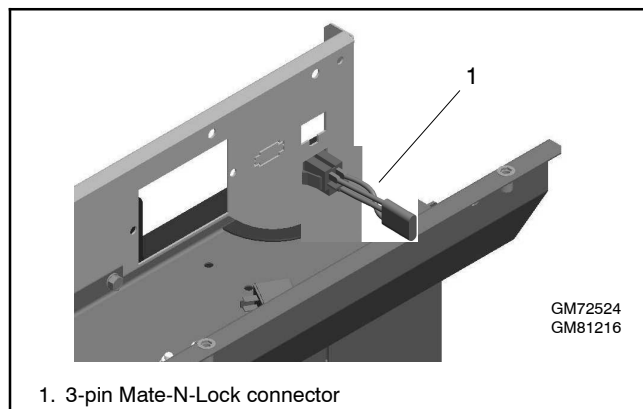

Figure 8 Disconnect Power Cable from 120 VAC Receptacle
17. Locate the 3-pin power connection to the 120 VAC receptacle. See Figure 8. Disconnect the power at the 3-pin Mate-N-Lock connector. The 120 VAC receptacle now has no power connected.